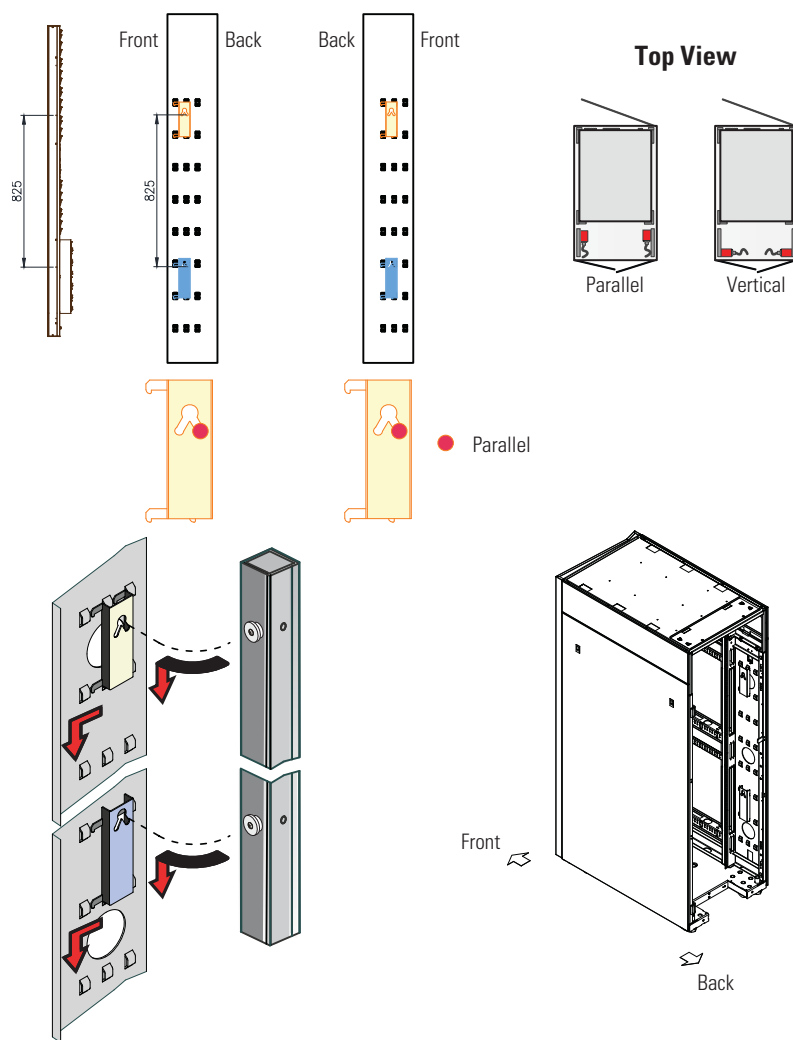

Figure 14. Lenovo Rack 9308 Bracket Installation
2. Position and install the brackets as shown in Figure 14.